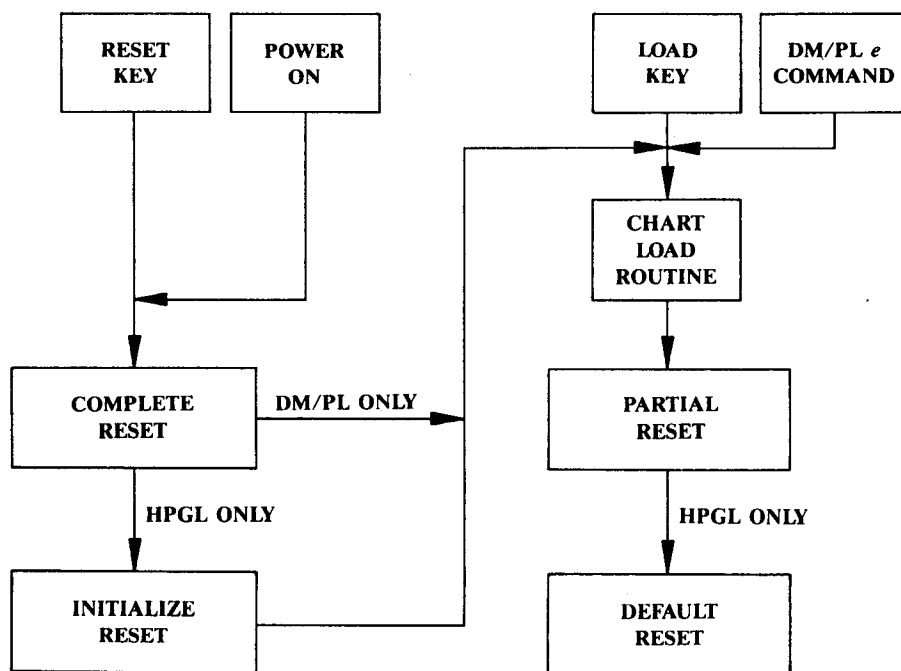

FIGURE 2-2. COMPLETE AND PARTIAL RESETS
- The plotter has two types of resets: complete reset and partial reset, which vary in extent. A partial reset typically occurs after loading a chart or as the result of a complete reset. A complete reset occurs at power on or as the result of operator action. Figure 2-2 shows how either form of reset can be initiated. For example, if you press the control panel RESET key during a plot, a complete reset and partial reset occur. If you press the LOAD key during a plot, only a partial reset occurs. Table 2-2 lists the values affected by a complete reset. The values affected by a partial reset are listed in Table 2-3.